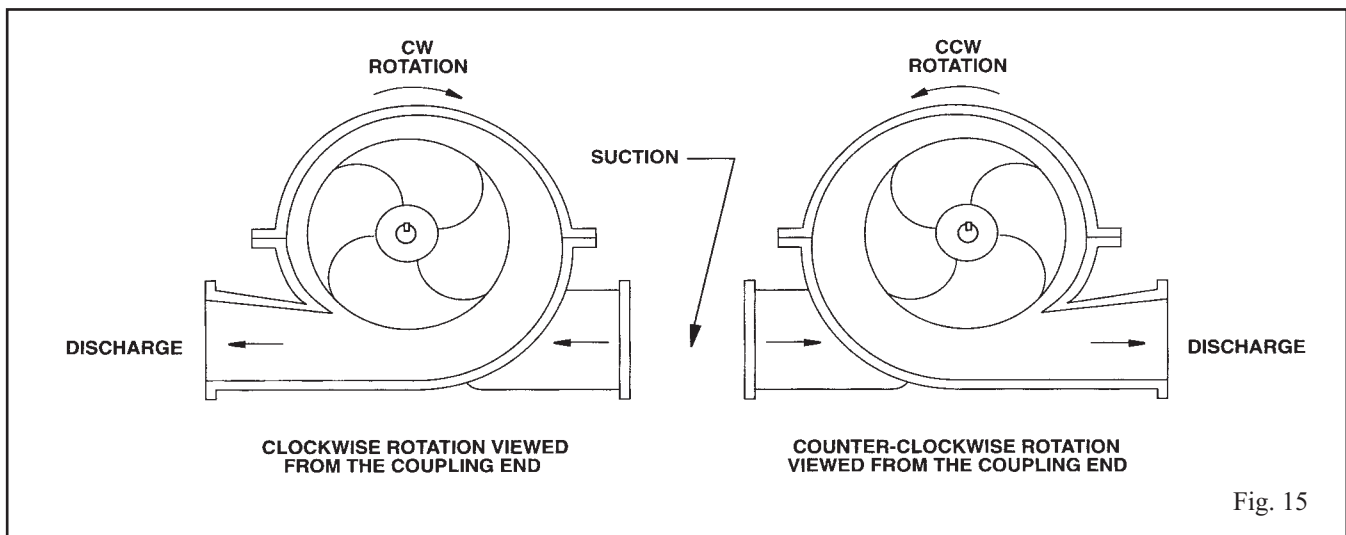

Fig. 15
3409 centrifugal pumps can be operated clockwise or counterclockwise when viewed from the coupling end of the pump (Fig. 15). If you wish to reverse the suction and discharge nozzles; i.e., change rotation, this can be accomplished with the same pump as follows:
1. Place impeller key (178) in shaft (122).
2. Check the impeller (101) and casing (100) to determine the correct impeller rotation (See Fig. 15) and locate the impeller on the shaft per dimension “A”. (See Fig. 16)
Double check rotation of pump before installing the upper half casing. (Refer to Fig. 15)